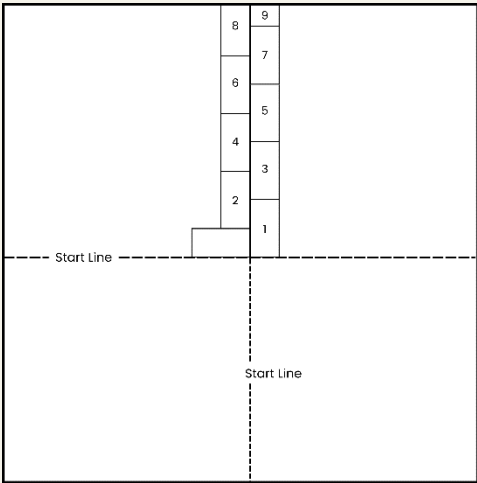
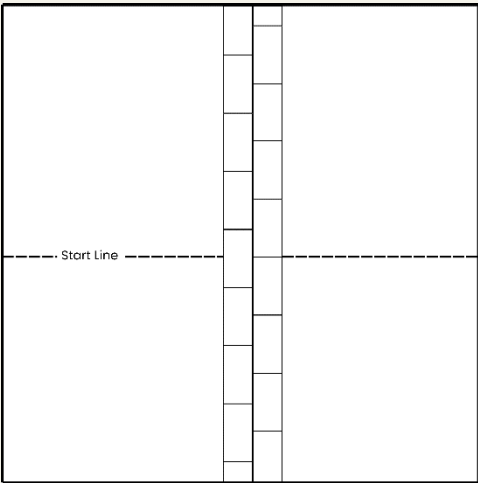

Figure 4
Figure 5
After determining the layout and snapping reference lines, install the initial tiles along the starting line from the starting point. Use the stair step method for square tiles; for rectangular tiles, use two (2) rows along the starting line to begin the installation (Figure 4). With the first tile aligned to the starting reference lines, push down to secure it in place. Position the second tile aligned to the edge of the first tile without any gap or force. Secure the tiles by removing the release liner and pressing down on the tile after it is properly aligned. Install additional tiles, ensuring each tile is aligned with the tiles next to it. (Figures 5 & 6) Once all full tiles are installed, cut perimeter tiles net or slightly gapped to the wall, ensuring the wall base or other trim will cover any gaps. **DO NOT FORCE-FIT OR COMPRESSION-FIT TILES TO THE WALL OR VERTICAL SURFACES.** There are two (2) easy ways to trim the last pieces along the wall: